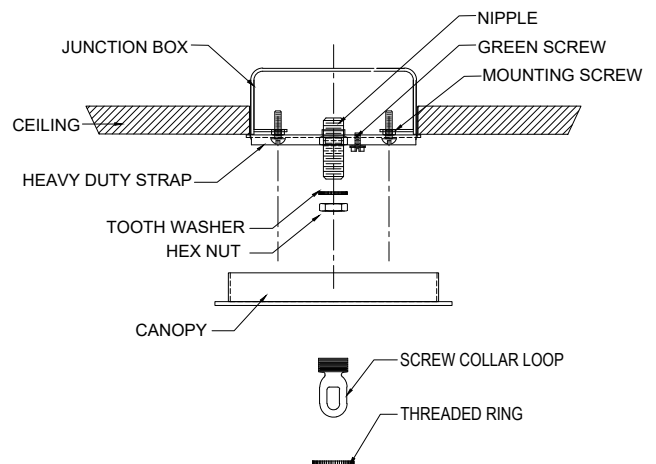

FIGURE-01
2. Remove the threaded ring from the screw collar loop. Fully thread the screw collar loop onto the nipple. Thread the hex nut onto the nipple and the nipple into the heavy duty strap. Place the canopy over the screw collar and against the ceiling. Adjust the nipple so that 1/4" of threads on the screw collar loop extend beyond the canopy. Tighten the hex nut against the heavy duty strap. Using the threaded ring, install the canopy. (See Figure -01)